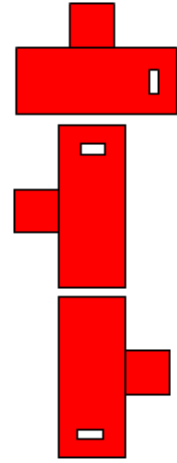

Figure 27: Calibration chart on the floor in House 1.
4. Move to side 2 (Fig. 27) and take a photo of all the dots from this position. Repeat the same process from side 3 and 4.